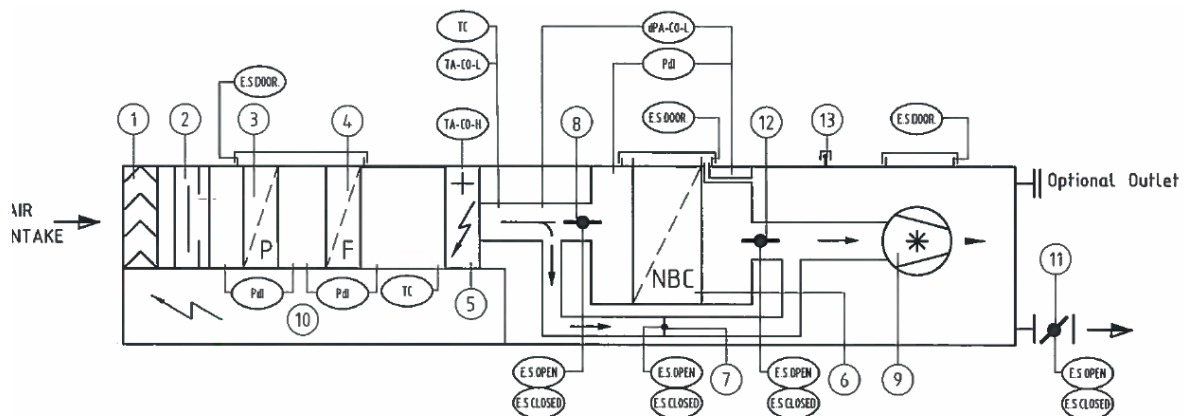

Figure 2.1 Flow diagram
Refer to item 1 on figure 2.1 and to divider 5 in section 9 of this manual.
Refer to item 2 on figure 2.1 and to divider 6 in section 9 of this manual.
Refer to item 3 on figure 2.1 and to divider 7 in section 9 of this manual.
Refer to item 4 on figure 2.1 and to divider 8 in section 9 of this manual.
Refer to item 5 on figure 2.1 and to divider 1 in section 9 of this manual.
Refer to item 8 on figure 2.1 and to divider 2 in section 9 of this manual.
Refer to item 7 and 10 on figure 2.1 and to divider 4 in section 9 of this manual.
Refer to item 6 on figure 2.1 and to divider 9 in section 9 of this manual.